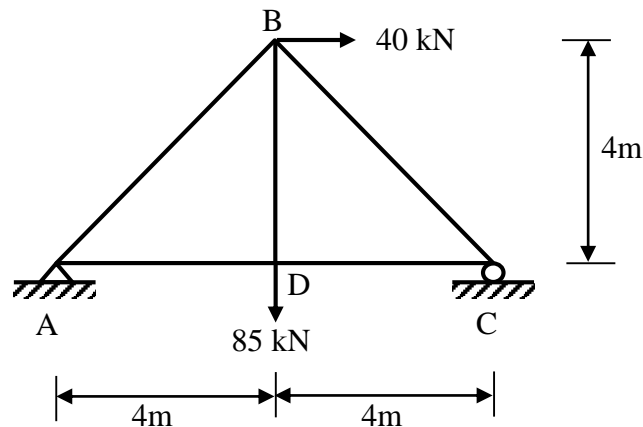

Figure A2(a) / Rajah A2(a)
- (a) **Figure A2(a)** show a statically determinate truss is subjected to external loads. The cross sectional area, $A = 450\text{mm}^2$ and modulus of elasticity, $E = 210\text{kN/mm}^2$. Given reaction at support A are $R_A = 22.5\text{kN}$ and $H_A = -40\text{kN}$. Whereas, reaction at support C is $R_C = 62.5\text{kN}$.